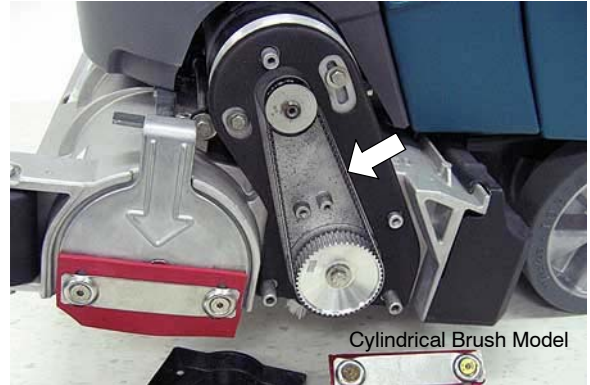

FIG. 72
2. Check the cylindrical brush belt tension every 100 hours (Figure 72). Belt tension should flex 0.1 in / 3mm at midpoint, with 2.5-2.7 lb / 1.13-1.22 kg force.